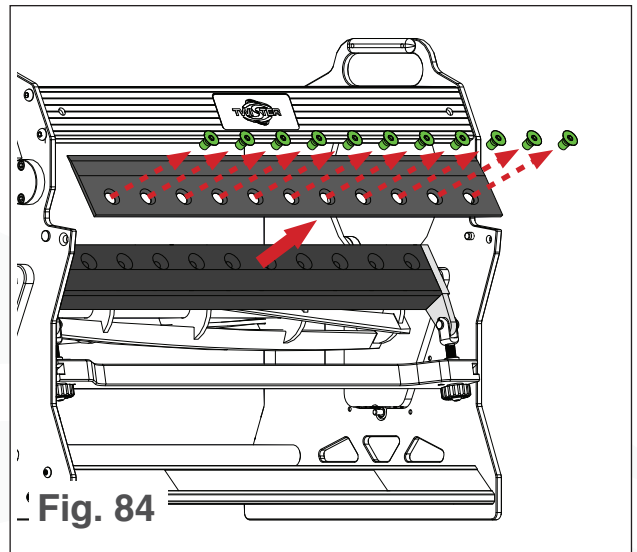

Fig. 84
3. Remove all 11 bolts from the top of the bed knife (see Fig. 84).
4. Remove the bed knife from the bed bar (see Fig. 84).